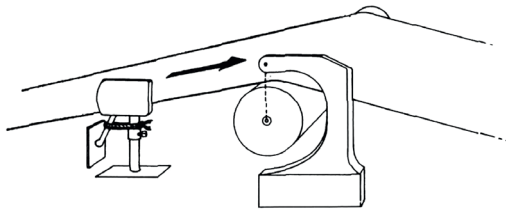

FIGURE 2. Centering guide roll during installation.
6. If the box cannot be placed in the right position, the usual procedure is to pull the fabric completely on the machine without moving the box and join the seam even if the fabric is not in the right position and alignment. If you do this, turn the guide palm to the side and tie it off (Figure 2) so that the guide roll is centered and the fabric will go on straight. When seaming is complete, turn the guide palm back to its normal position and untie if before the machine is started up.